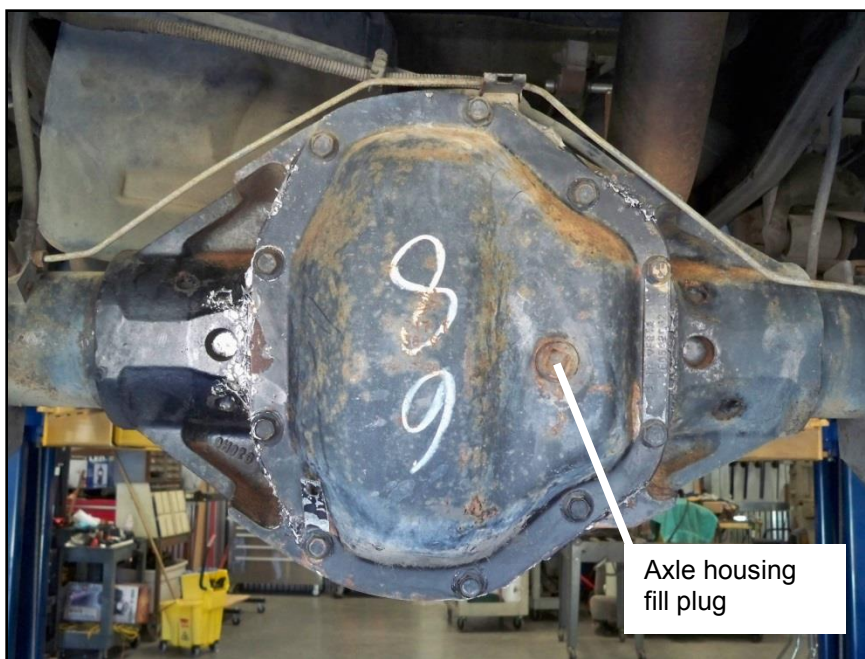

Figure 1
STEP 3. Loosen the axle housing fill plug with a 1/2" square ratchet (**See Figure 1**).